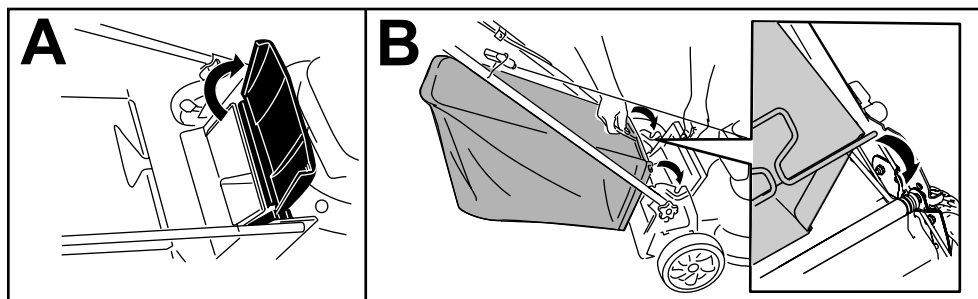

Figure 15
1. Raise and hold up the rear deflector (A of Figure 15).
2. Install the grass bag, ensuring that the pins on the bag rest in the slots on the handle bracket (B of Figure 15).